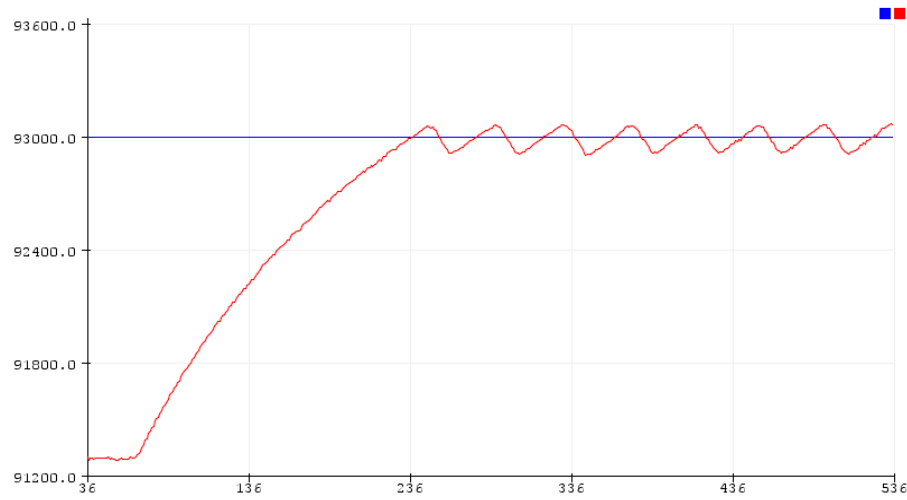

Figure 8: On-off controller response of the system
27. You should be able to see a MATLAB plot like in the Figure 8. Save the plot.